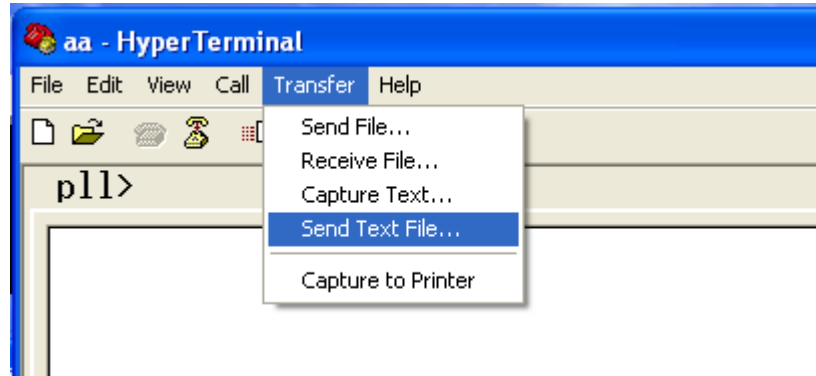

Figure 3. Hyperterm text file transfer selection
To write the file to memory, first connect power to the Orion board and connect the PC COM port (9600, N81). After the power on message is observed, type “E” and then “Enter” (CR). Type “Y” at the “Erase all, press Y to accept...” prompt. Next, issue the “QC” command to clear the error status. Then, perform a text file upload using the terminal program of choice (for Hyperterm, see Figure 3).